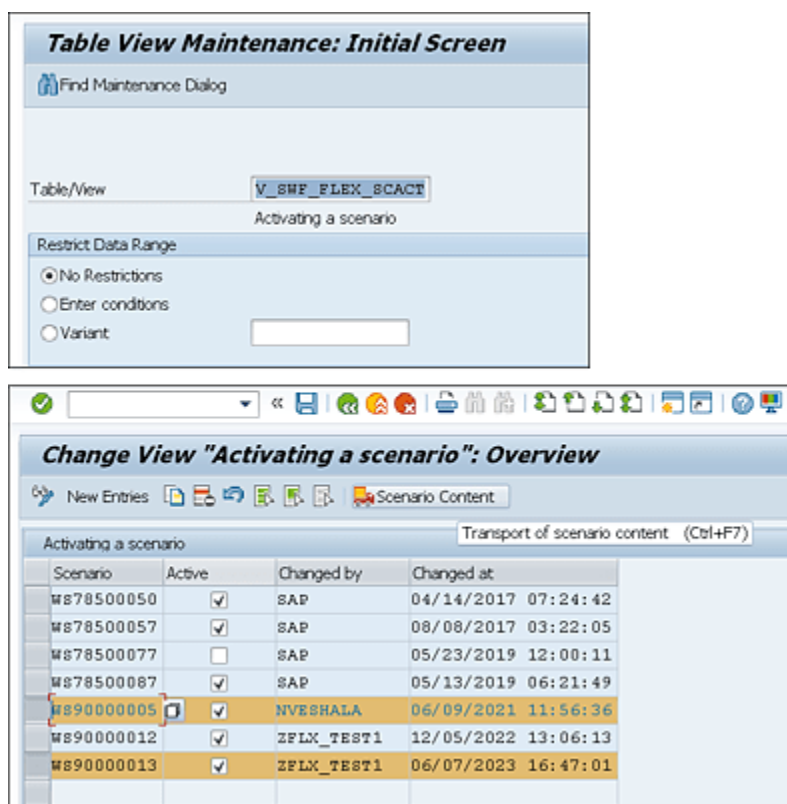

Figure 16.16 Transport Scenario
3. Select the scenario you want to transport, and click on the **Transport of scenario content** button, as shown in Figure 16.16. Alternatively, you can select the scenario and press Ctrl + F7.